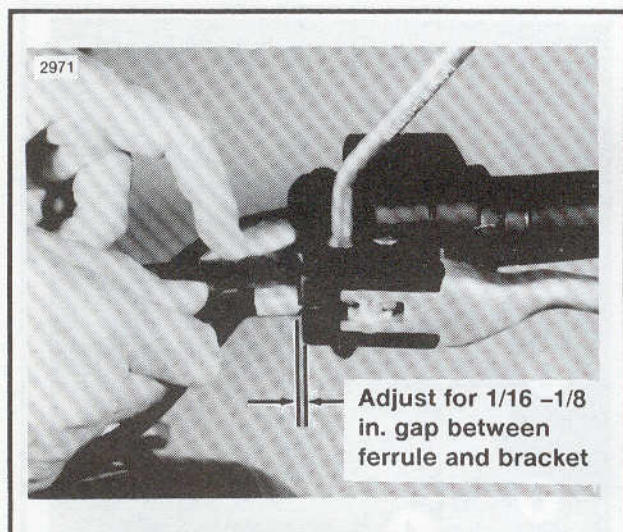
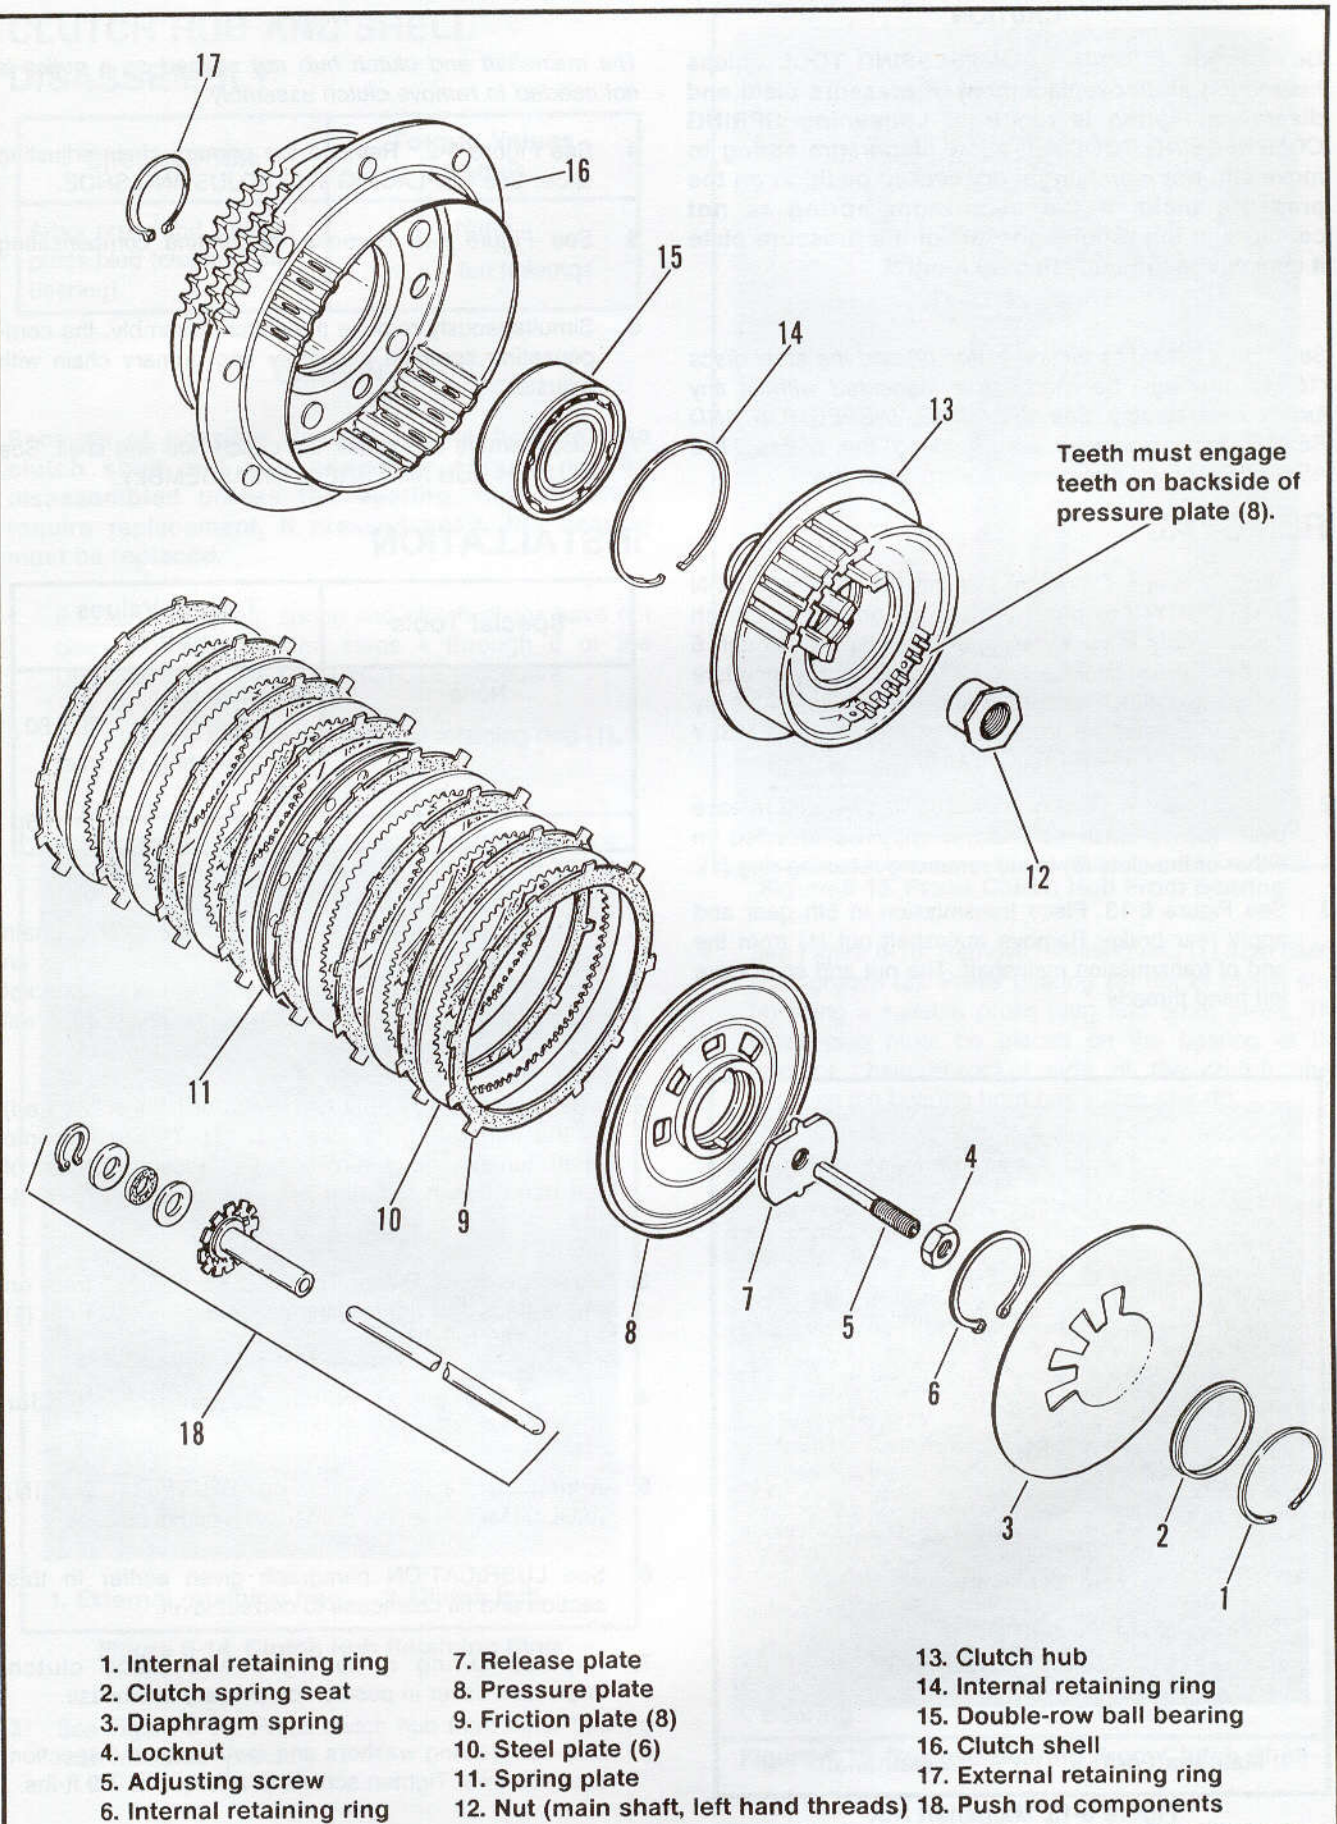

Figure 6-10. Measuring Free Play
Figure 6-12. Clutch Assembly
See Figure 6-12. The friction plates (9) and the steel discs (10, 11) can now be changed or inspected without any further disassembly. See **CLEANING, INSPECTION AND REPAIR** for instructions on checking the plates. The **ASSEMBLY** procedure covers clutch assembly.
CLEANING, INSPECTION AND REPAIR (Figure 6-12)
ASSEMBLY (Figure 6-12)
- See Figure 6-12. Place a friction plate (9) over clutch hub (13) and into drum (16). Next place a steel plate (10) over hub (13) and into clutch shell (16). Continue installing plates alternately, starting and ending with a friction plate.
- Place pressure plate, spring, compressing tool assembly on clutch hub (13).
- Turn handle (4) clockwise to compress the diaphragm spring and move the clutch spring seat (5) inward enough to allow retaining ring (6) installation. The ends of retaining ring (6) must not overhang the posts or bosses on the clutch hub. See Figure 6-10 for a properly installed retaining ring.
- Release compressing force on diaphragm spring by turning handle (4) counterclockwise while checking that clutch spring seat (5) lip is seated inside retaining ring (6).
- See Figure 6-12. Install adjusting screw (5) and locknut (4) in release plate (7).